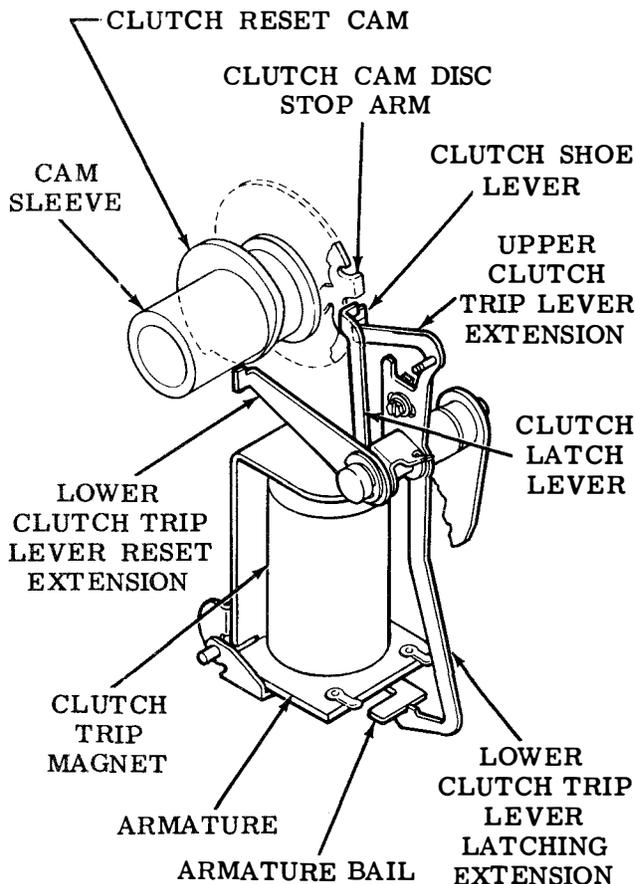
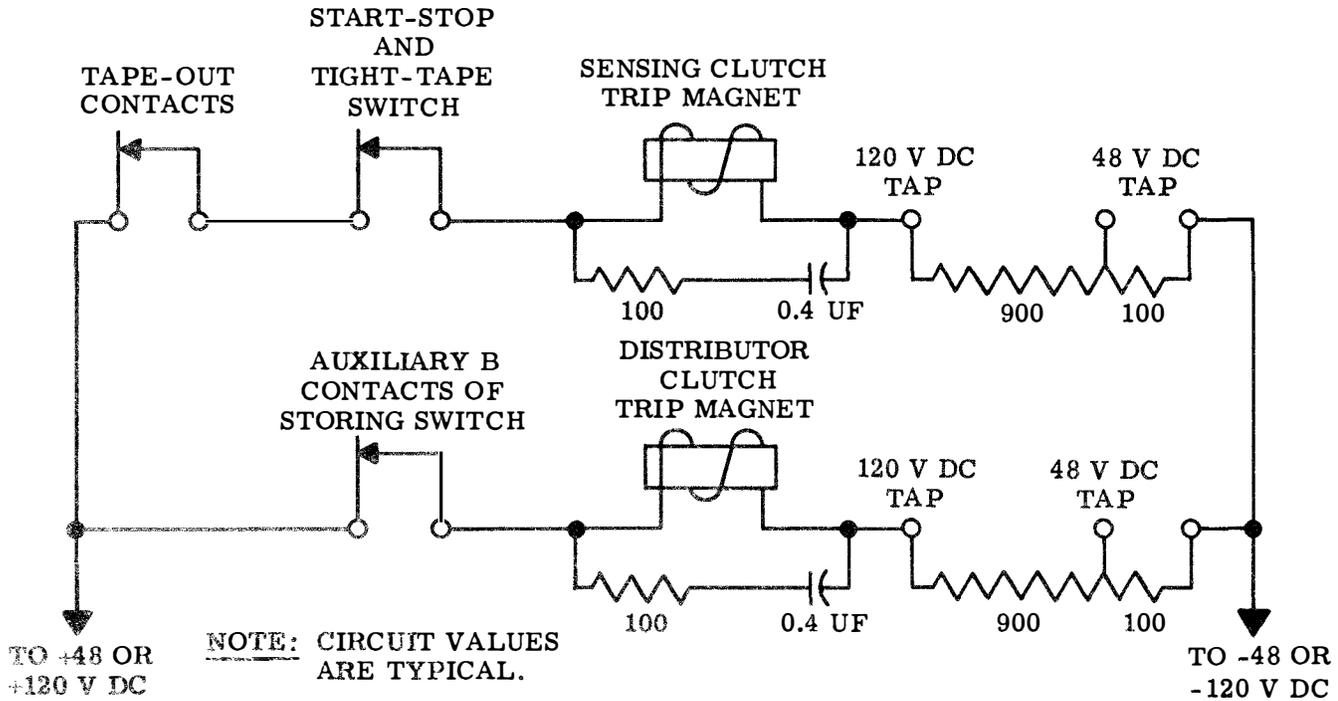

Figure 7 - Clutch Trip Mechanism
Figure 8 - Clutch Trip Magnet Circuits
the signal circuit. The clutch trip magnet circuit consists of the clutch trip magnet coils in series with both the start-stop and tape-out contacts. See Figure 8.
6.01 The distributor and sensing clutch trip mechanisms are identical (Figure 7). Clutch tripping is accomplished by closing the electrical contacts of the respective clutch trip magnet circuit (Figure 8).
6.05 The respective clutch is reset (disengaged) if the corresponding clutch trip magnet circuit is opened. The clutch reset cam of the cam sleeve cams the lower reset extension of the clutch trip lever. The moving lower clutch trip lever latching extension is latched in the reset position by the armature bail as shown in Figure 7. The moving upper clutch trip lever
8.01 The distributor cam sleeve begins its rotation after the auxiliary B contact actuator closes the auxiliary B contact in the sense storing switch. This action energizes the distributor clutch trip magnet (Figure 8). As the distributor cam sleeve rotates, the cams open and close contacts on the distributor mechanism distributor block for a predetermined interval. A sequential signal is distributed on the signal line corresponding to the character set up in the sense storing switch but also including a start and a stop bit. This cycle is repeated if the sensing clutch magnet remains energized.
10.01 Positioning the start-stop lever in the STOP position rotates the start-stop bail enough to actuate the start-stop and tight-tape switch, causing a break in the sensing clutch trip magnet circuit (Figures 8 and 12).